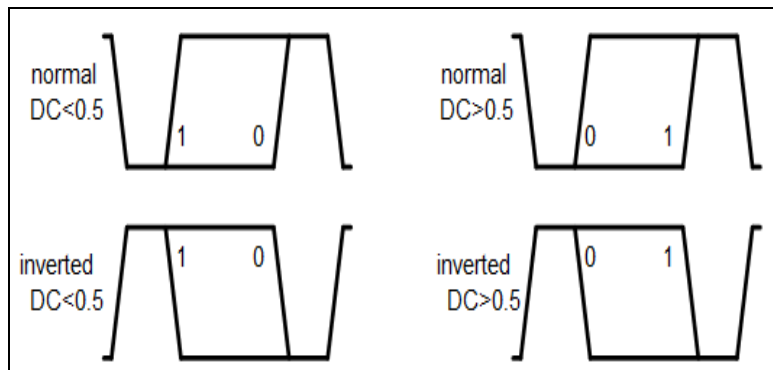

Figure 3 PWM Parameters
Instead of plain pattern encoding, a PWM encoding scheme can be utilized. A PWM waveform is defined by three parameters: the data rate, the inversion, and the duty cycle (DC) of the logical bits. Figure 3 on page -11 shows the impact of the inversion and the duty cycle (zero ratio, that is, the duty cycle of a logical zero).